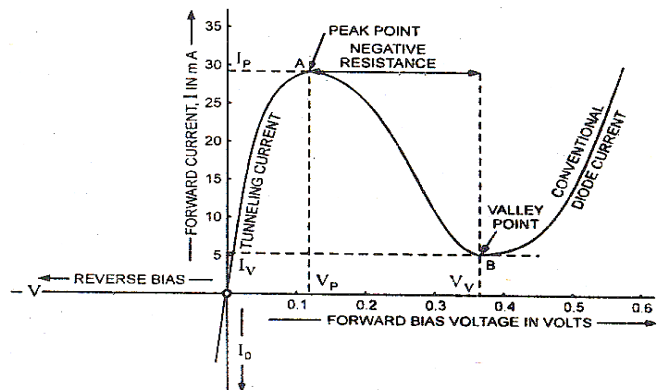

Fig. 11(a)
**Ans:** **Volt-ampere characteristics of a tunnel diode:** The V-I characteristics of a tunnel diode are shown in fig. 11(a) Forward bias produces immediate conduction as soon as forward bias is applied, significant current is produced. The current attains quickly its peak value  $I_p$ , when the applied forward bias attains a value of  $V_p$  volts. The current variation in the vicinity of origin is due to quantum mechanical tunneling of electrons through narrow space charge region of the junction. With the further increase in forward voltage, the diode current starts decreasing till it attains its minimum value, called the valley current  $I_v$  corresponding to valley voltage  $V_v$ . Thus from peak point A to valley point B the diode current falls with the increase in voltage resulting in negative resistance in this region. In fact this portion A B of the characteristic constitutes the most useful property of the diode. In this region the diode, instead of absorbing power, produces power. So the tunnel diode can be used as a very high frequency oscillator. For voltages higher than valley voltage  $V_v$  current starts increasing as in any normal diode.